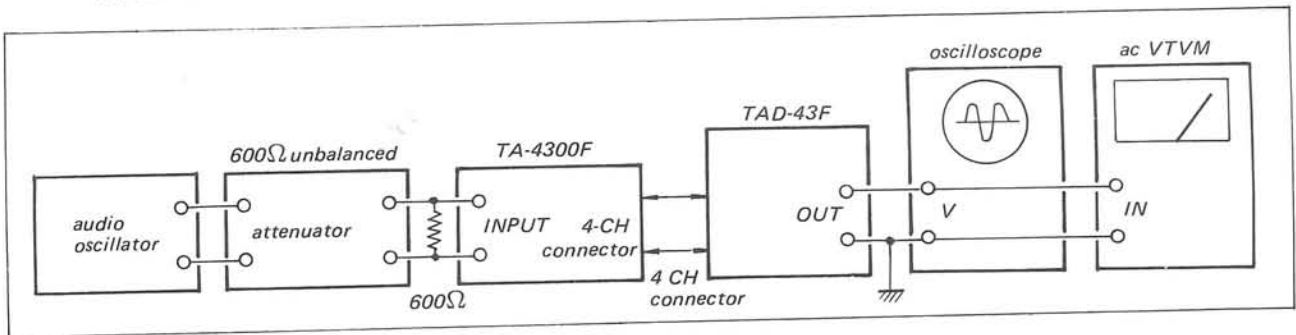

Fig. 3-1 Level check test setup
With the equipment connected as shown in Fig. 3-1, check the output level according to the procedures given in Table 3-1.
(a) With the equipment connected as shown in Fig. 3-1, set the CROSSOVER FREQUENCY selector switch to 12 kHz. Feed a 5 kHz, 2 dB signal to the INPUT jacks of the TA-4300F, and then adjust the LOWER HIGH LEVEL controls to obtain 0 dB readings at the LOWER HIGH OUTPUT jacks.
- (b) With the equipment connected as shown in Fig. 3-1, set the CROSSTALK FREQUENCY selector switch to 3 kHz. Feed a 20 kHz, 2 dB signal to the INPUT jacks, and then adjust the UPPER HIGH LEVEL controls to obtain, 0 dB readings at the UPPER HIGH OUTPUT jacks.
1. With the equipment connected as shown in Fig. 3-1, feed a 3 kHz, 2 dB signal to the INPUT terminals of the TA-4300F.